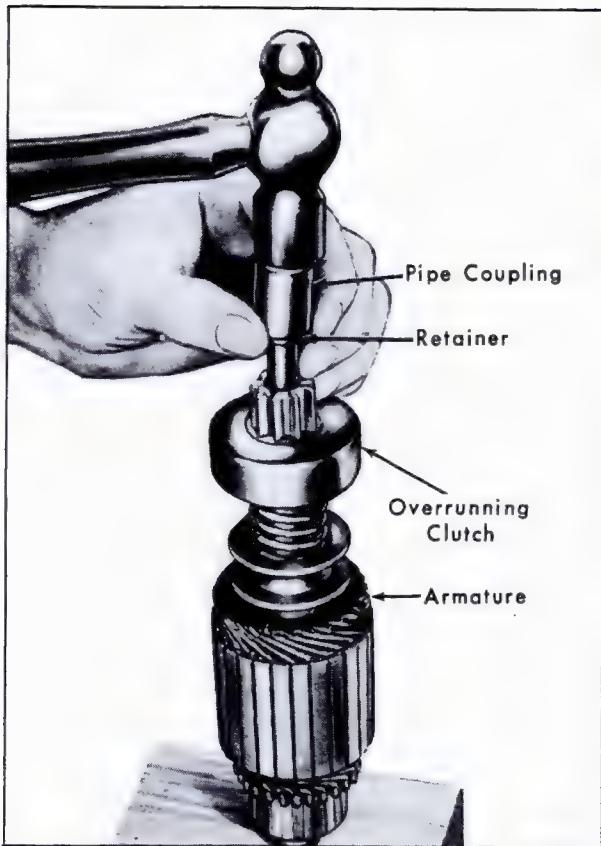

Fig. 6-17 Removing Overrunning Clutch
- b. Slide clutch assembly onto armature shaft with pinion outward, Fig. 6-17.
- c. Slide retainer onto shaft with cupped surface facing end of shaft, Fig. 6-17.